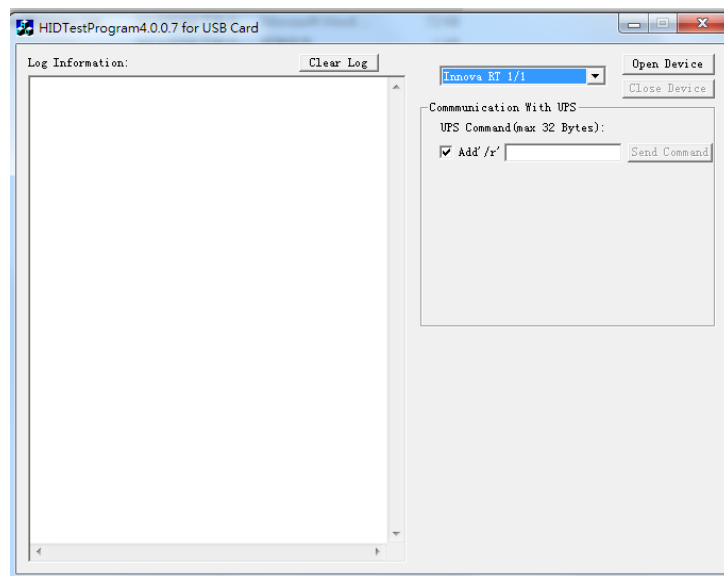

Fig 1. Main screen for USB HID testing tool
Step3: Execute this USB HID testing tool and select 'Innova RT 1/1' and then click "Open Device" button as shown Fig 1.